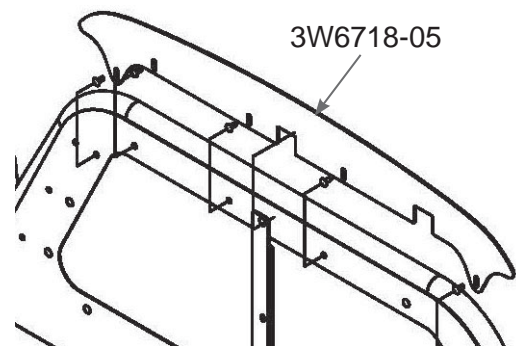

Fig. 8
- A. Re-using bolts and nuts from window frame, install headliner 3W6718-05 (Fig 8). Headliner will be found in the wing kit box.